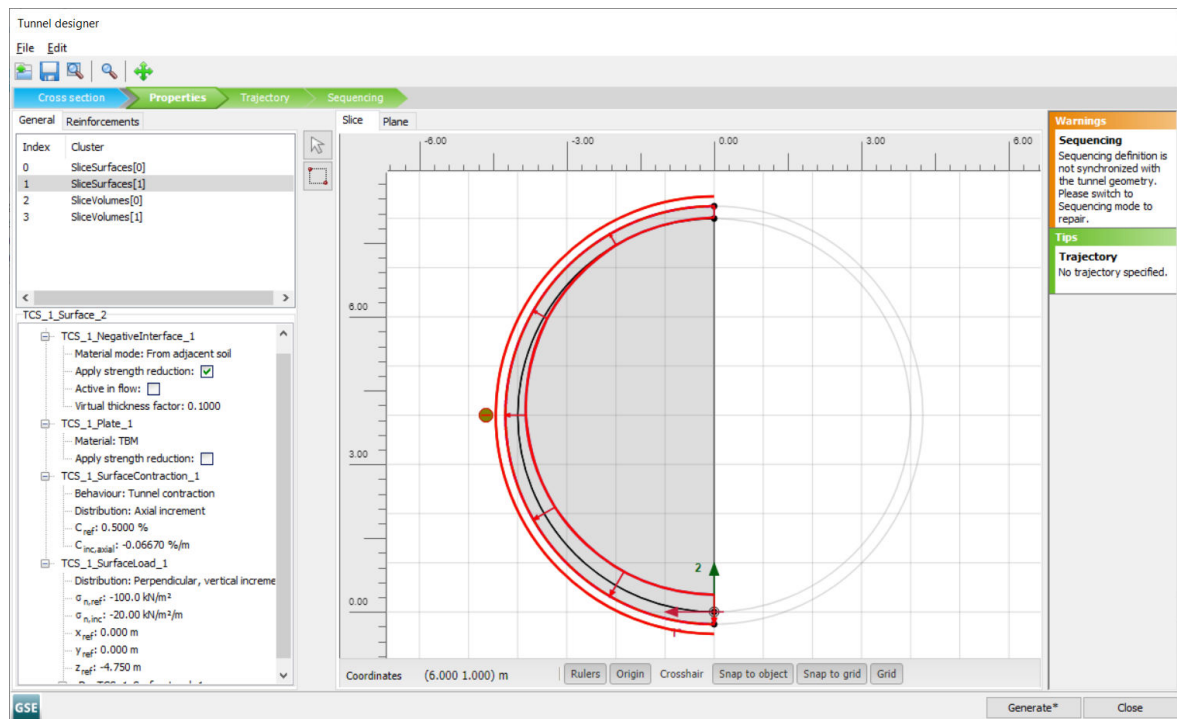

Figure 65: Slice tabsheet in the Tunnel designer
3. Set the $\sigma_{n,ref}$ to -100 and $\sigma_{n,inc}$ to -20 and define $(0 \ 0 \ -4.75)$ as the reference point for the load by assigning the values to x_{ref} , y_{ref} and z_{ref} (Figure 65 (on page 92))